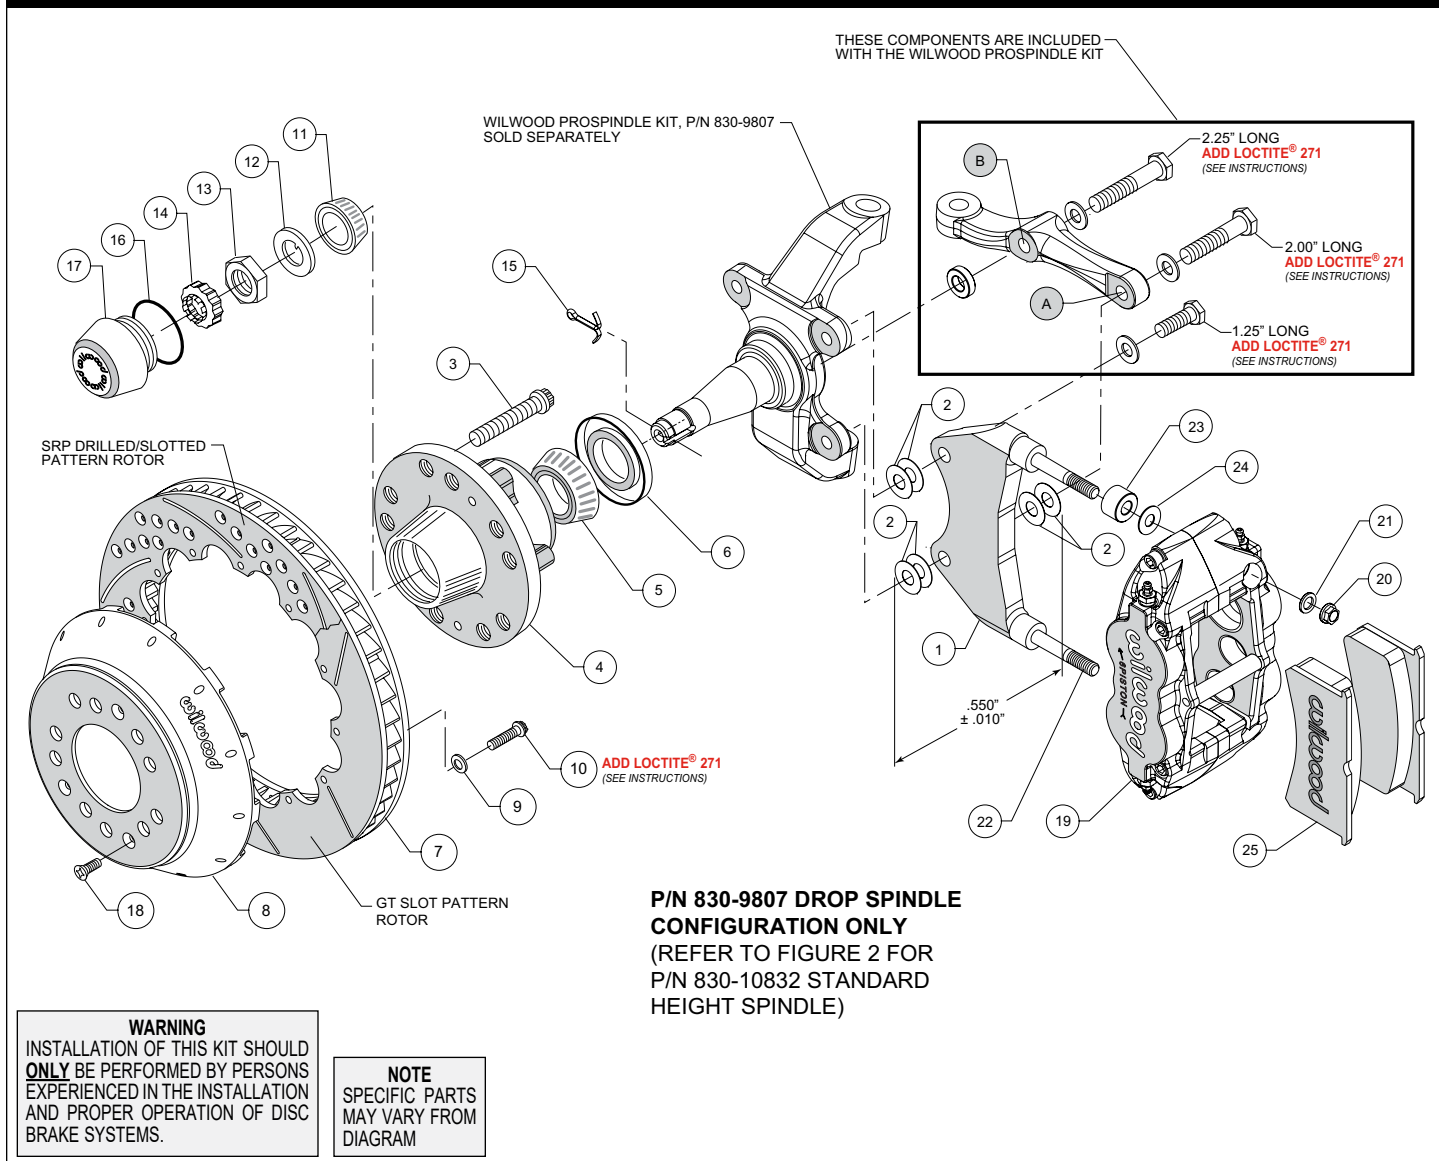
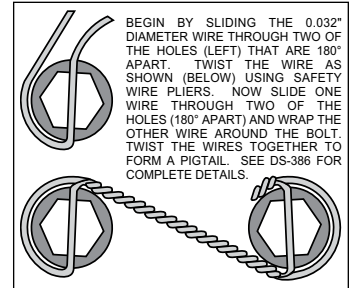

Figure 1. Installation Configuration For Drop Spindle, P/N 830-9807
Figure 4. Safety Wire Diagram
Assembly Instructions (numbers in parenthesis refer to the parts list and Figures 1 or 2 on the preceding pages):
- NOTE:** Each Wilwood ProSpindle kit includes bolts, washers, and a spacer to mount the steering arm and caliper bracket. The various bolts are identified by length in the following instructions and in Figures 1 and 2.
- Orient the bracket as shown in Figure 1 and Photo 1. Install at top spindle hole using 1.25" long bolt and .06" thick washer (from ProSpindle kit), and two .016" thick shims (2) between the bracket and spindle, Figure 1.
- Orient the steering arm, and identify the hole marked 'A', as shown in Figure 1. Install at bottom spindle hole using 2.00" long bolt and .06" thick washer (from ProSpindle kit), two .016" thick shims (2) between the bracket and steering arm, and another two .016" thick shims (2) between the bracket and spindle, Figure 1. The bracket is located between the steering arm and spindle. **NOTE:** *The bracket and shim washers must add up to a total thickness of .550" ± .010", Figure 1.*
- Finish attaching the steering arm through the hole marked 'B', as shown in Figure 1. Install using 2.25" long bolt, .06" thick washer, and .25" thick spacer (all from ProSpindle kit), Figure 1.
- Pack the large inner bearing cone (5) with high temperature disc brake bearing grease (available from your local auto parts store) and install into the backside of the hub (4), Photo 4.
- Install the grease seal (6) by pressing into the backside of the hub (4), Photo 4.
- Orient the rotor (7) and the hat (8) as shown in Figures 1 or 2, and Photo 5. Attach rotor to hat using bolts (10) and washers (9). Apply red *Loctite*® 271 to the bolt threads and torque to 155 **in-lb** using a criss-cross pattern. For an added measure of security, the bolts may be safety wired using standard 0.032 inch diameter stainless steel safety wire as shown in Figure 4. Refer to Wilwood's data sheet DS-386 (available at www.wilwood.com/Pdf/DataSheets/ds386.pdf) for complete safety wire installation instructions.
- Pack the small outer bearing cone (11) with high temperature disc brake bearing grease and install into hub (4). Slide the hub assembly onto the spindle. Secure using spindle washer (12) and spindle nut (13), Photo 6. Bearing adjustment: Tighten the nut while turning the hub. When there is a slight bind on the bearings, they are seated correctly. Back the nut off about 1/6 to 1/4 of a turn, or sufficiently to allow .001" to .007" end play. **WARNING:** Failure to back off adjusting nut could cause bearing to run hot and be damaged, which could cause the wheel to lock or come off. Install spindle nut retainer (14) and cotter pin (15).
- Screw dust cap (17) into hub (4), Photo 7. Friction created by the o-ring (16) on the dust cap keeps it from unscrewing.
- Slide the hat/rotor assembly (7/8) onto the hub (4) taking care to align the small countersunk holes in the hat with the small threaded holes in the hub. **NOTE:** The hat must fit flush against the hub face or excessive rotor run out may result. Install three flat head screws (18) through the small holes in the hat (8), Photo 7, and torque to 85 **in-lb**.
- NOTE:** This kit contains distinct right and left hand calipers that must be mounted in a specific direction, as described below. Initially place one .035" thick shim (24), and spacer (23) on each stud (22) as shown in Figure 1 or 2, and Photo 8. Mount the caliper (19) onto the bracket (1) using lock nuts (20) and washers (21), Figure 1 or 2. Ensure that the caliper is mounted so that the largest pistons are at the rotor exit end of the caliper, in relation to the direction of rotor rotation. Temporarily tighten the lock nuts and view the rotor through the top opening of the caliper. The rotor should be centered in the caliper, Photo 9. If not, proceed as follows:
- For the lower bracket mount bolt, if a shim was added between the bracket and spindle, then a shim must be removed between the steering arm and bracket, such that the total thickness of bracket and shims remain equal to $.550 \pm .010$ ", Figure 1.